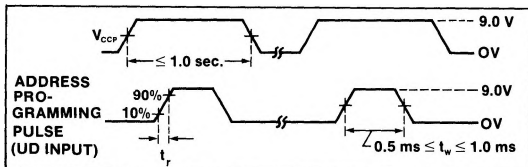

Figure 2. Address Programming Pulse
- Step 3: After  $V_{CC}$  has stabilized, apply a single programming pulse (Figure 2) to the user-bus bit that corresponds to the desired high-level  $\overline{IV}$  address bit. The I/O port is programmed from the user bus (UD0-UD7) for addressing from the MicroController bus ( $\overline{IV0-IV7}$ ).